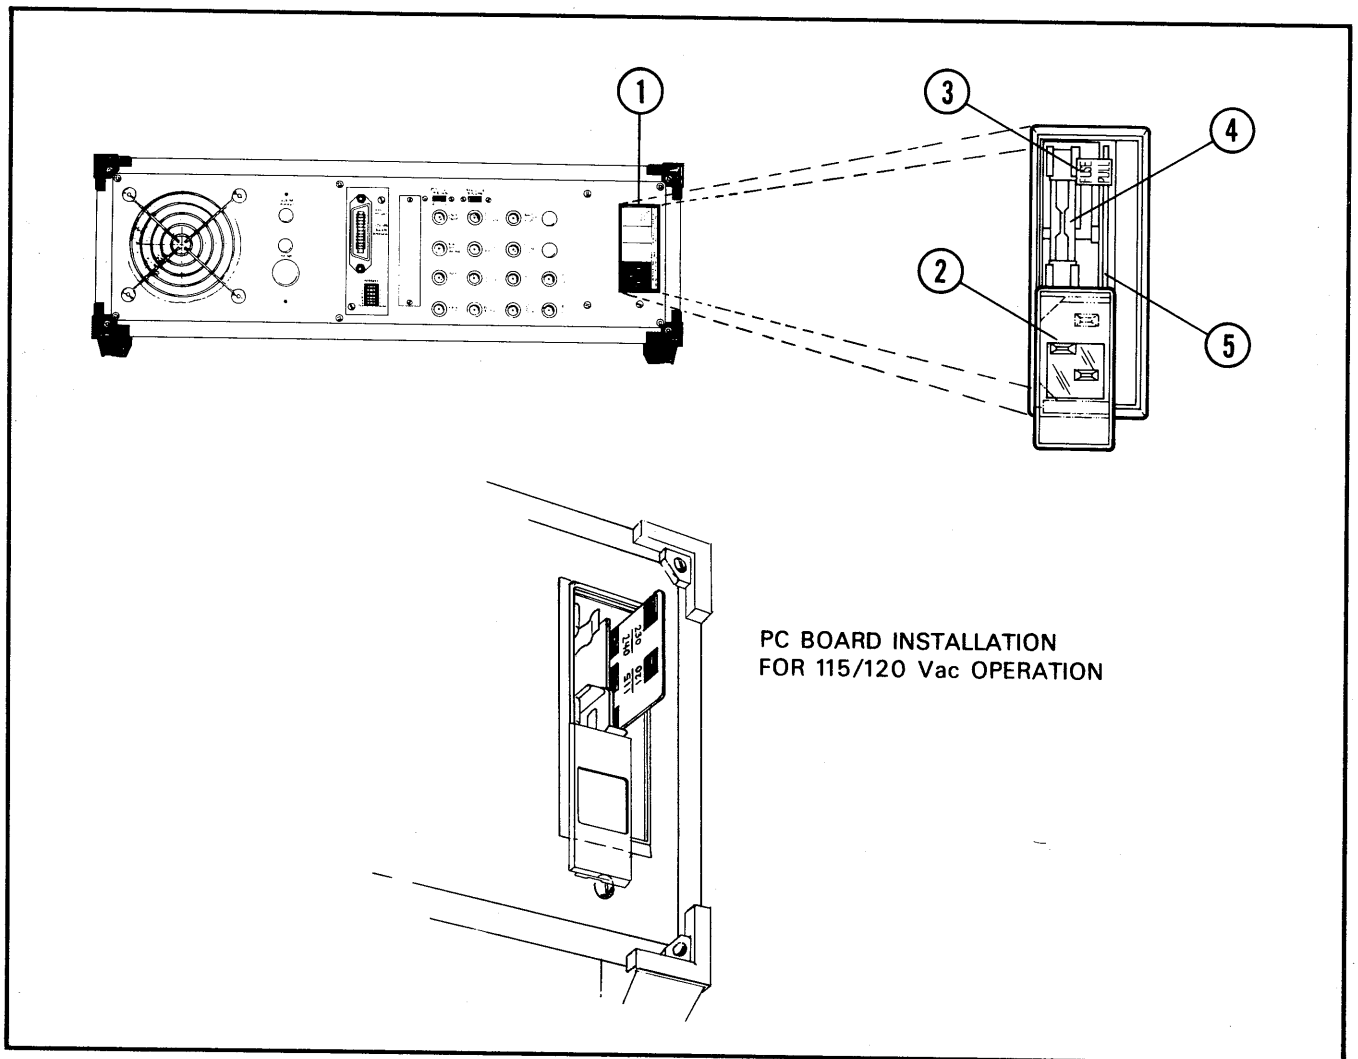

Figure 2-1. Line Voltage Selector Module
- a. Refer to Figure 2-1. Disconnect the power cord from the voltage selector module ① and slide cover ② down to gain access to the fuse compartment.
1. Pull on FUSE PULL ③ and remove line fuse ④ and PC board ⑤.
2. Using the example for 115/120 Vac operation (Figure 2-1) as a guide, reinstall the PC board. For the correct installation of this board, the desired line-voltage callout should be located: